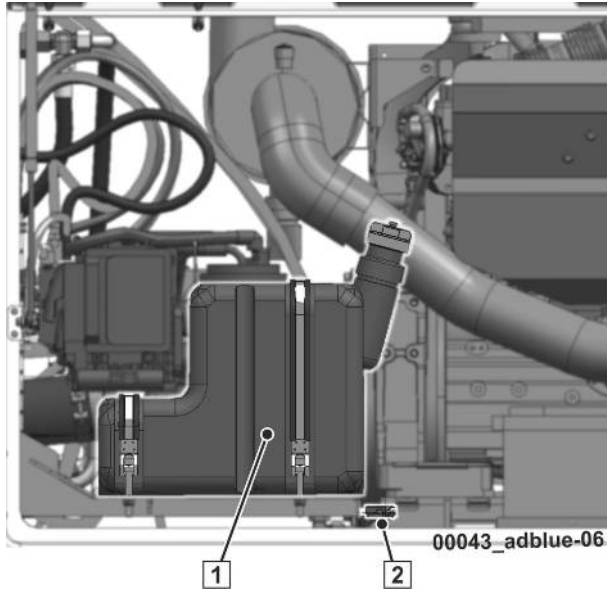

Fig.: 10
- Disengage the safety on the slewing arm (2; Fig.: 10 / detailed view 1; Fig.: 11,